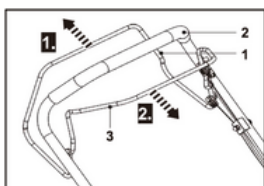

Fig. 24
1. Release the self-propel lever (1) to disengage the drive function (Fig. 24, step 1).
2. Release the brake lever (3) to stop the motor and blade (Fig. 24, step 2).